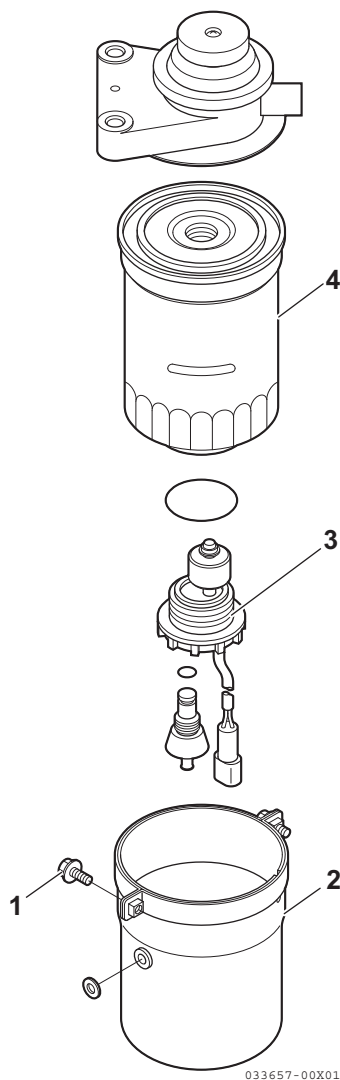
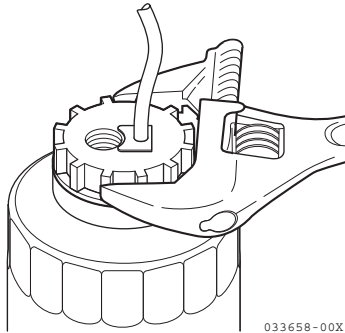

Figure 6
Figure 7
2. Remove the two mounting screws (1, **Figure 6**) and the housing (2, **Figure 6**).
5. Remove the alarm switch ((3, **Figure 6**) and (**Figure 7**)) with a wrench.
6. Remove the filter element (4, **Figure 6**) with a filter wrench.